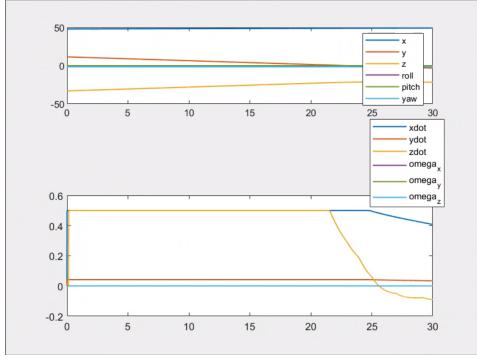

Figure 5: Position and velocities during the Minimum Altitude Vehicle task imposed 10m threshold
- **10 m:** It seems no a reasonable value. The UVMS has initial position below this threshold, so it start floating to the surface very quickly (it is possible to notice this huge vertical velocity  $\dot{z}$ , in the graph (Figure 5)). Of course, the task is not accomplished because the target position is far from the threshold.